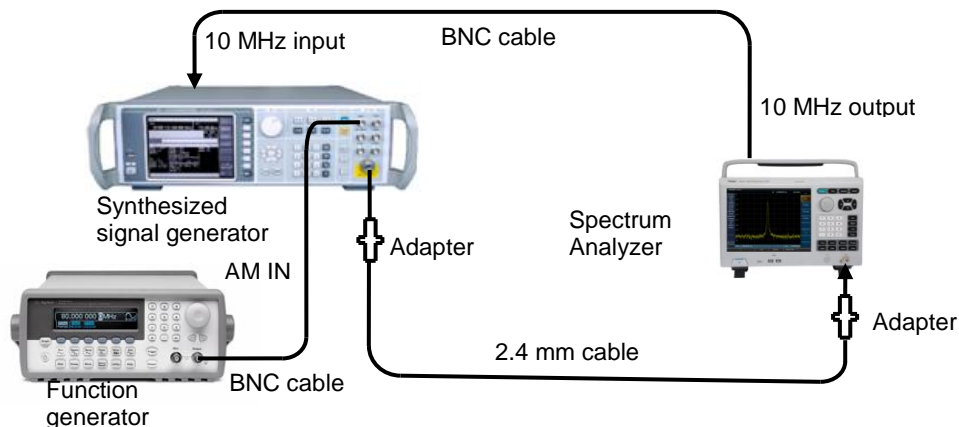

Fig 11-4 Sweep Time Accuracy Testing Setup
1) Connect the test device as shown in Fig 11-4. The output of function generator is connected to the amplitude